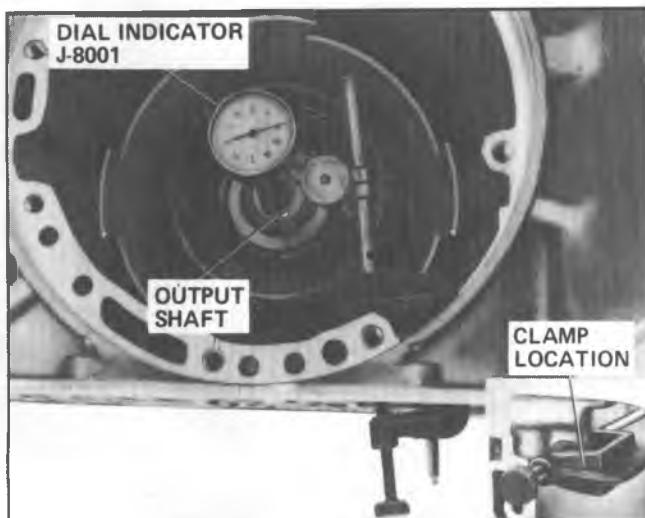

Fig. 7A-95A--Checking Rear Unit End Play
2. Install gauge clamp on case as shown in Fig. 7A-95A.
3. Install dial indicator J-8001 and plunger extension J-7057. Position extension against end of output shaft. Set dial indicator to zero (Fig. 7A-95A).